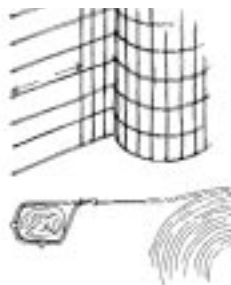

Figure 3. Wrap 1' of horizontal wires around end posts.
1. Cut vertical wires 1' from the starting end and wrap horizontal wire around the end post (see fig. 3).